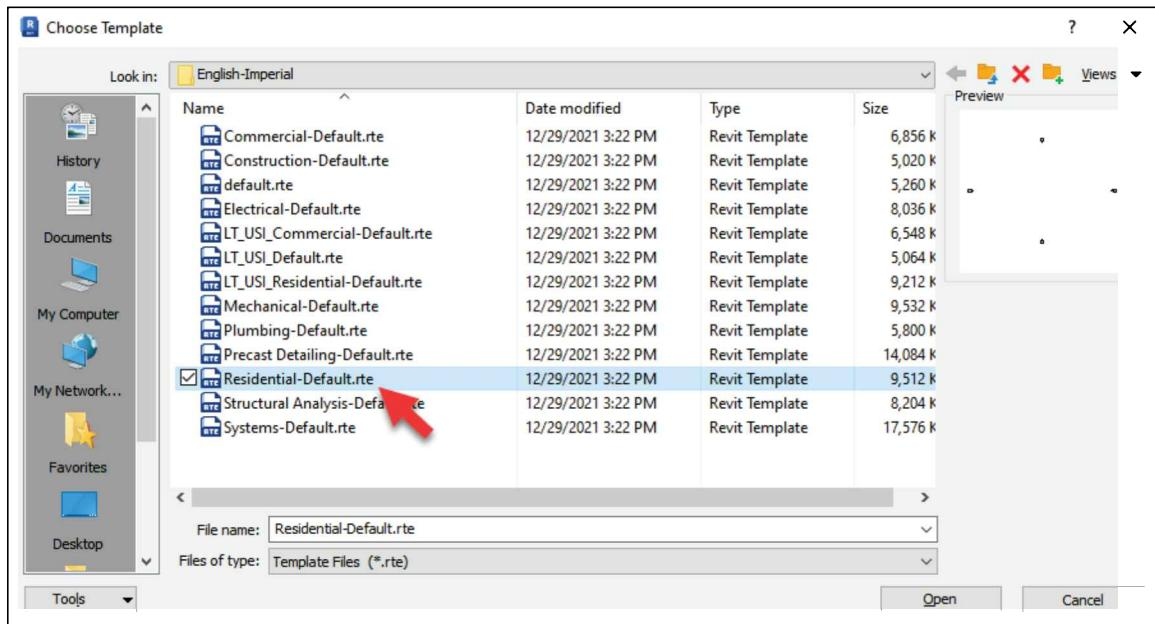

FIGURE 5-1.2 Choose Template dialog
3. Select the template named **Residential-Default.rte** from the list of available templates (Figure 5-1.2).